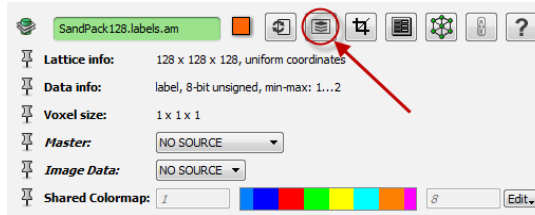

Figure 7.6: The *Segmentation Editor* button.
- In the label image property area, invoke the *Segmentation Editor* in order to access the tools necessary to clean up the labels (see Figure 7.6).